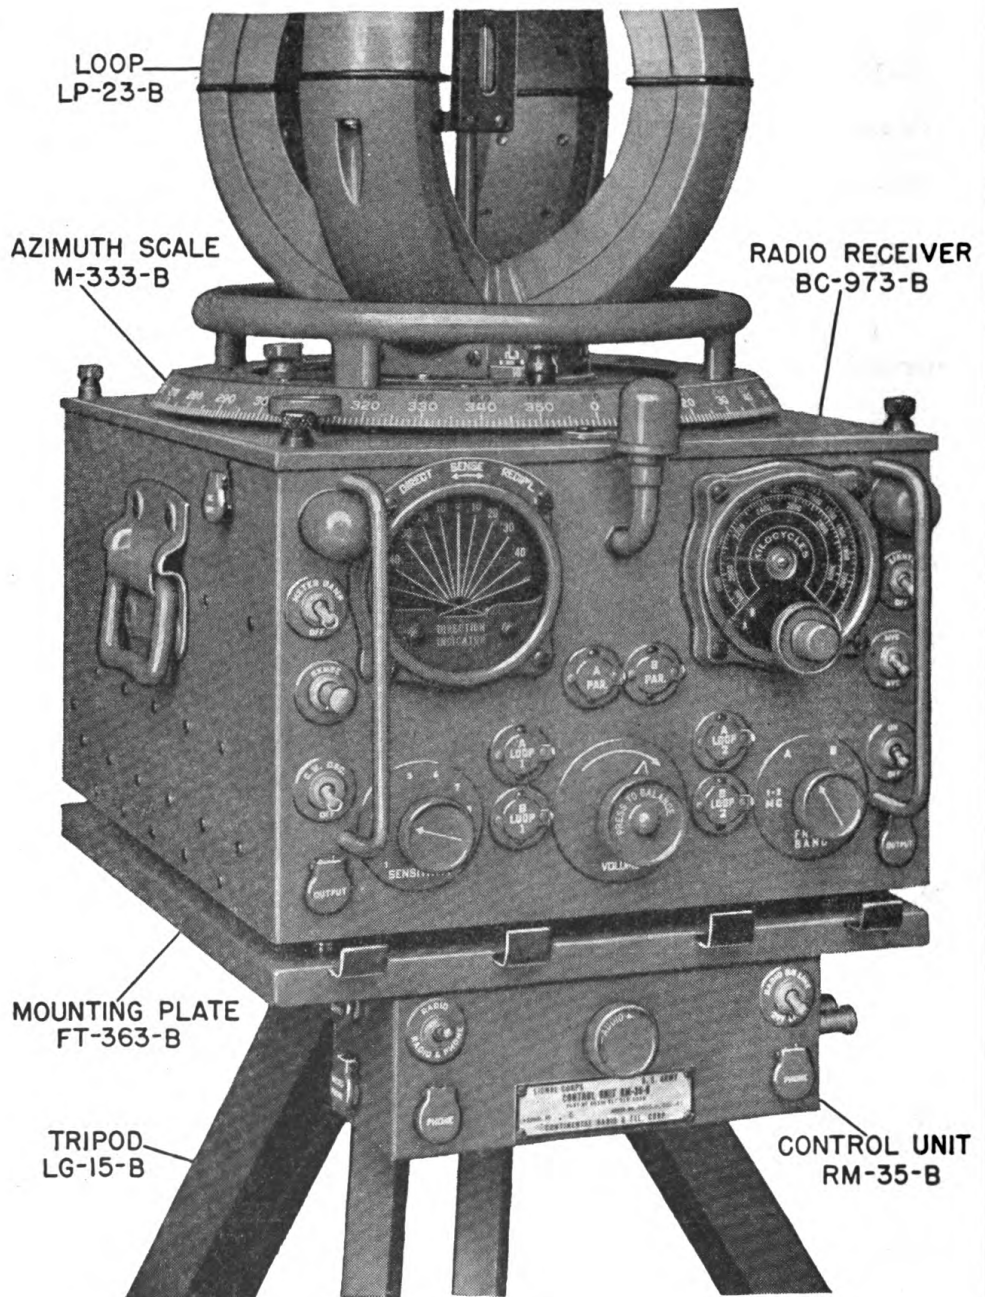

FIGURE 10. Control Unit RM-35-B, mounted.
(1) **Control unit.**—Remove Control Unit RM-35-B from the upper left corner of Chest CH-103-B. Mount it to the underside of Mounting Plate FT-363-B (fig. 10) and lock it in position by pushing the two center slide fasteners forward. Connect the control unit to the receiver by means of the two patching Cords CC-66, which are stored in Chest CH-103-B. Connect one patching cord from jack marked **OUTPUT** on the right side panel of the receiver to the jack marked **RADIO SET** on the right side panel of the control unit. Connect the other patching cord from the jack marked **MIC. SUPPLY** on the left side panel of the receiver to the jack marked **MIC. SUPPLY** on the left side panel of the control unit.